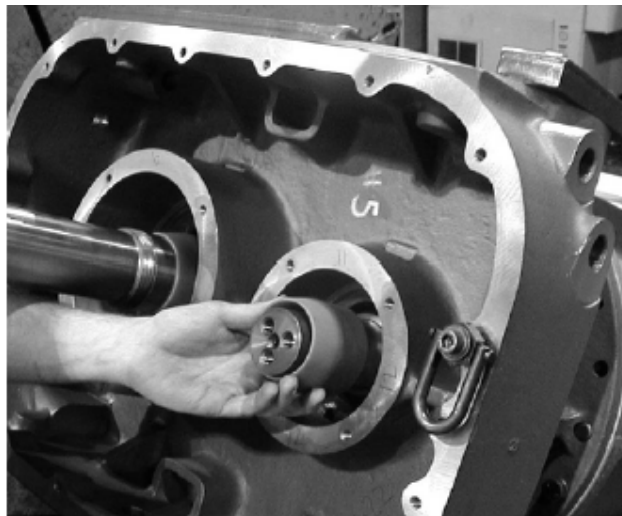

FIGURE 7-14 – SEAL INSTALLATION GUIDE
14. Slide the protective installation sleeves over each shaft (Figure 7-14). Install the green outside diameter oil seal (32) on the main rotor shaft and the red outside diameter oil seal (33) on the gate rotor shaft. The dirt lip and the rotation arrow should be down. Drive the seal flush with the bottom of the oil channel cast inside of the bearing bore. Remove installation sleeves and store for later use on the gear end.